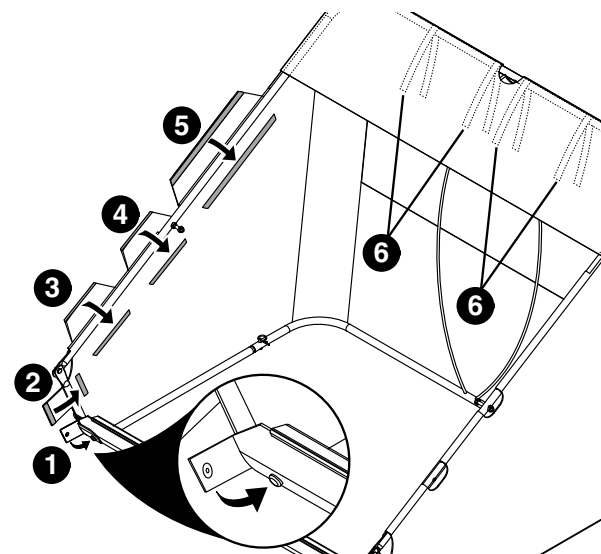

Figure 13
STEP 13: (SEE FIGURE 13)
- Tie the bag ties (6) around the upper rear hopper tube.